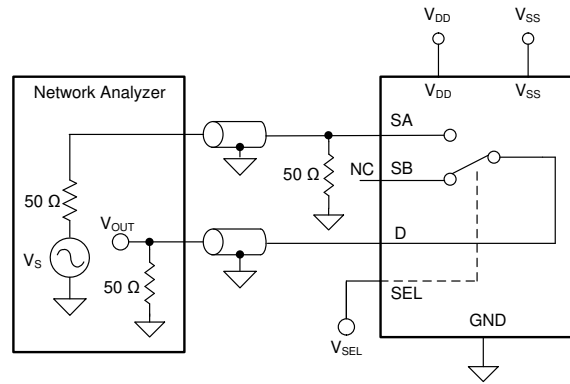

Figure 6-7. Off Isolation Measurement Setup
Off isolation is defined as the voltage at the drain pin (D) of the TMUX6136 when a 1- V_{RMS} signal is applied to the source pin (Sx) of an off-channel. Figure 6-7 shows the setup used to measure off isolation. Use Equation 2 to compute off isolation.